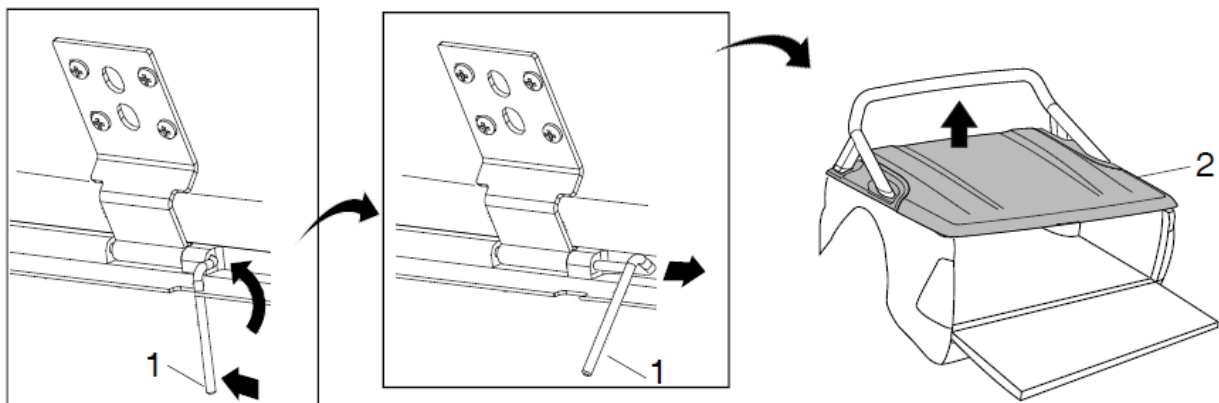

FIGURE 3
2. Remove hinge pins (1) and remove tonneau cover (2). Refer to figure 3.